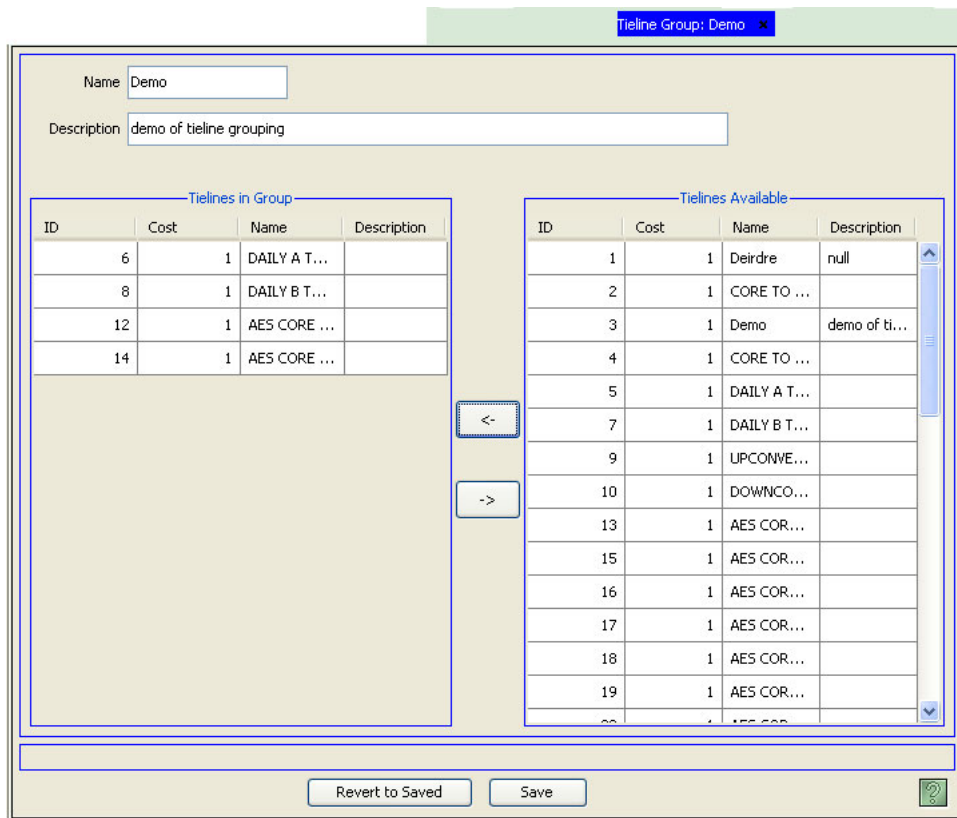

Figure 16-30. Tieline Group Details Page
- 3 Double click on a single row to view details for that tieline group in the 'Tieline Group Detail' page, as shown in Figure 16-30.